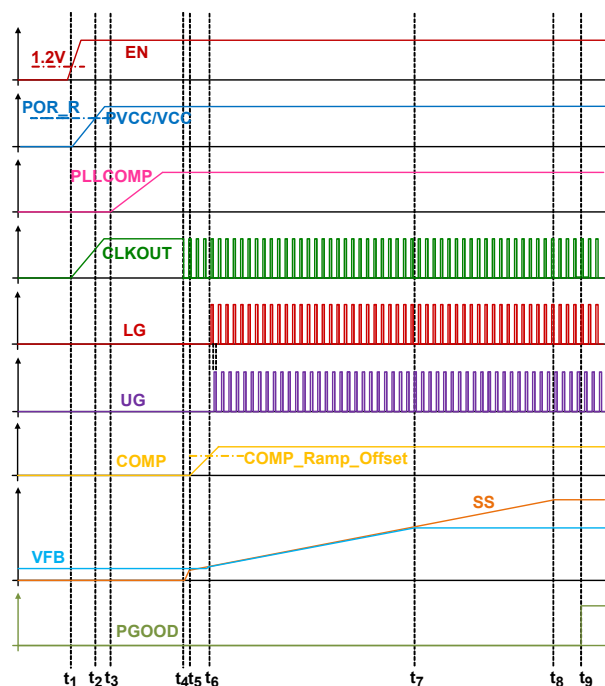

FIGURE 67. CIRCUIT INITIALIZATION AND SOFT-START
- There is no limit for the minimum voltage on the TRACK pin, but note the lower reference voltage and the lower voltage feedback regulation accuracy. Note the SS_DONE signal is checking $V_{REF_TRK} \geq 0.3V$ as one of the conditions (refer to the t_8 - t_9 description on page 31 and Figure 67 on page 30). Also, for the boost converter, the regulated output minimum voltage is usually the input voltage minus the upper MOSFET's body diode drop, in which case, the corresponding voltage at FB voltage is the minimum effective voltage for the V_{REF_TRK} and V_{REF_DAC} .
Before converter initialization, the EN pin voltage must be higher than its rising threshold and the PVCC/VCC pin must be higher than the rising POR threshold. When these conditions are met, the controller begins initialization and soft-start. Figure 67 shows the ISL78229 internal start-up timing diagram from the power-up to soft-start.
Assuming input voltage is applied to the VIN pin before t_1 and VCC is connected to PVCC, as shown on Figure 67, the start-up procedure is described as follows:
Diode emulation occurs during t₅-t₈ (on Figure 67 on page 30), regardless of the DE/PHDRP operating modes (Table 2).